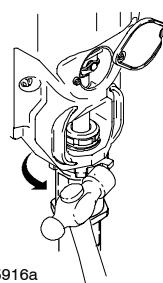

Fig. 21
5. Fig. 21. Install suction tube (78) and hose (19).
6. Fig. 21. Screw jam nut (12) up onto pump until nut stops. Tighten jam nut by hand, then tap 1/8 to 1/4 turn with a 20 oz (maximum) hammer to approximately 75 +/- 5 ft-lb (102 N·m).